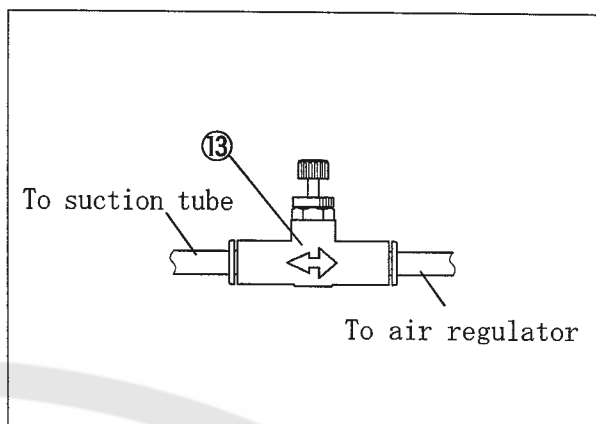

Fig. 12
Check the in-line speed controller ⑬ is set correctly. (Fig. 12)